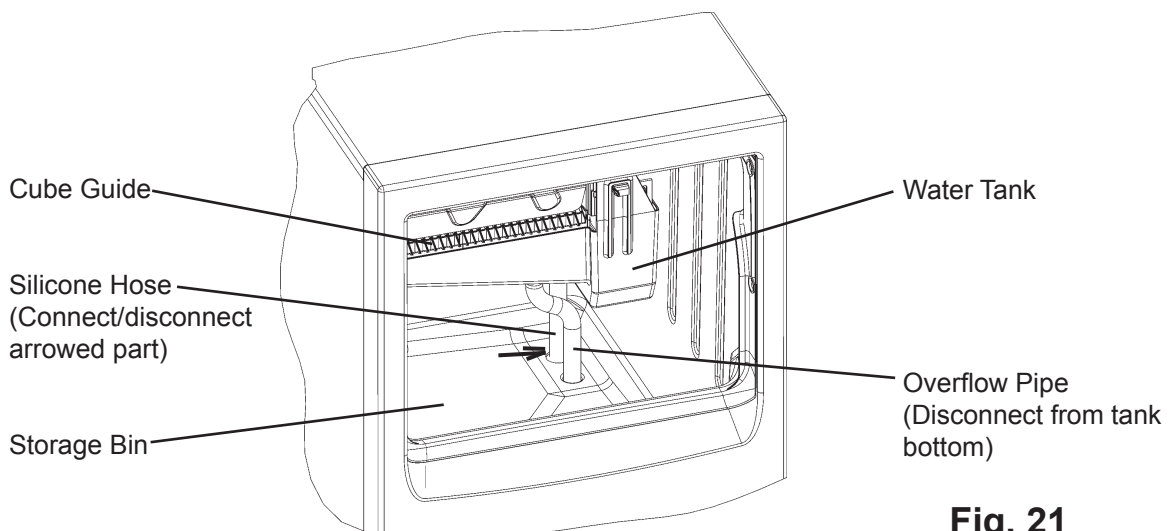

Fig. 21
- 4) Disconnect the silicone hose to drain the water. See Fig. 21. Reconnect the silicone hose back in its correct position after all of the water has drained.